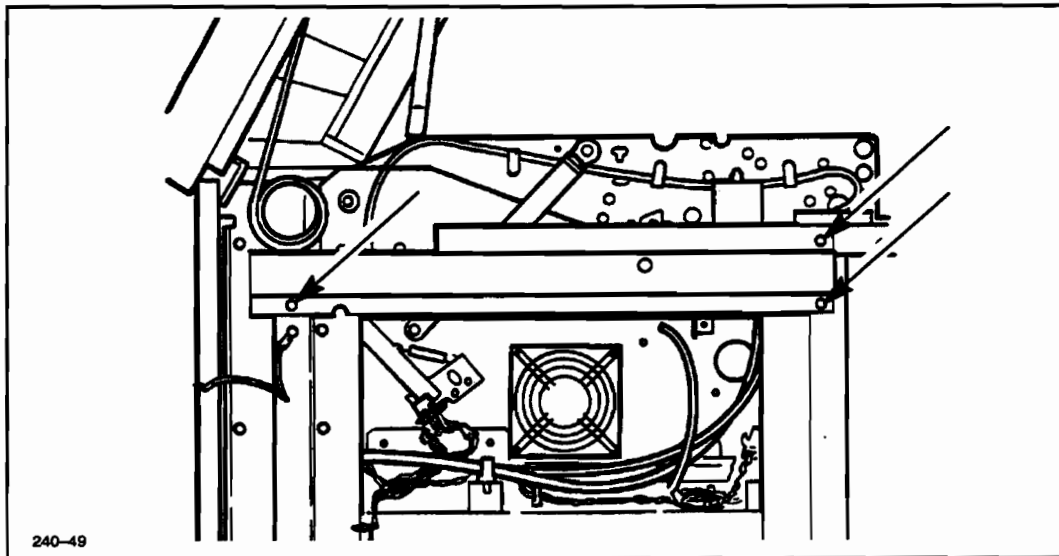

Figure 6-58. Support Bar Mounting Screws
4. Using a #2 Phillips screwdriver, remove the three left-side support bar mounting screws. See Figure 6-58.
4. Remove the three left-side support mounting screws. See Figure 6-58.